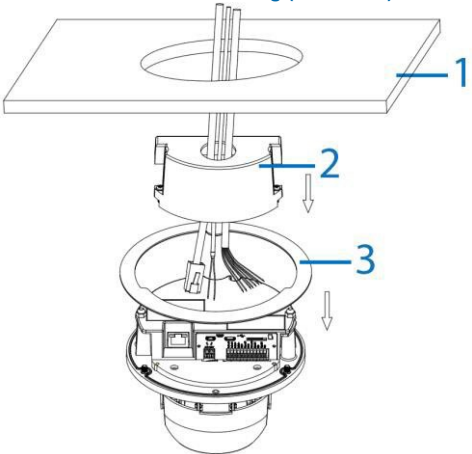

Figure 4
1. Hold the guide pattern sticker up to the ceiling (1) (Figure 4) and cut out a 125mm hole.
4. Place the camera power cables through the hole in the ceiling, the metal cover (2) (Figure 4) and trim plate (3) (Figure 4).